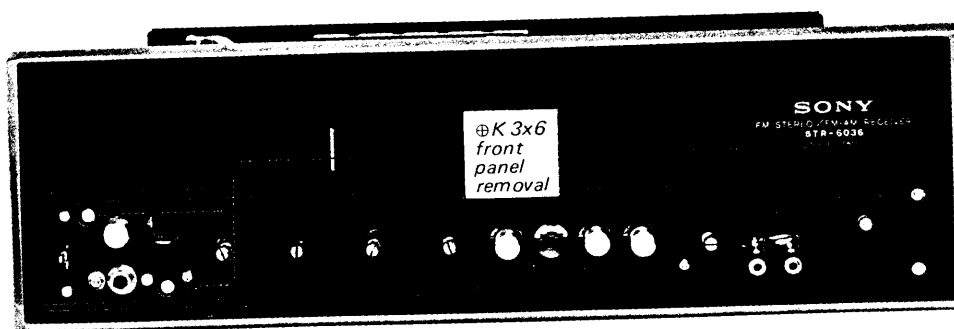

Fig. 2-4. Front panel removal
5. Remove the four screws securing the front panel to the front subchassis as shown in Fig. 2-4. This frees the front panel.